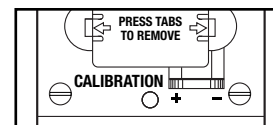

Figure 3 – Calibration
8. Dimmer may require adjustment to the low end setting to reliably start lamps connected to certain ballasts. To adjust, DISCONNECT POWER FROM CIRCUIT, and remove the Wallplate. Use a small insulated, flat tipped screwdriver to adjust the trim pot wheel, which is accessible via the slot (marked "CALIBRATION") provided on the strap (Figure 3). Turn the wheel "+" to increase the minimum light intensity setting and turn the wheel "-" to decrease light intensity. Next, install the Wallplate, restore the power and test. Repeat above as necessary.